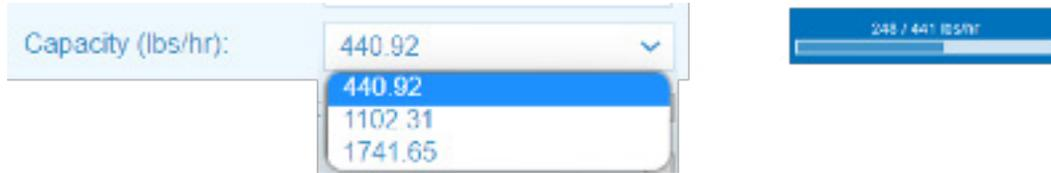

Figure 8: Dropdown to select the correct capacity.
the capacity as needed. (See Figure 8) Integrating the RO directly onto the pump skid will save on the footprint of the system—Only (1) skid instead of (2) separate skids. (See Figure 9)